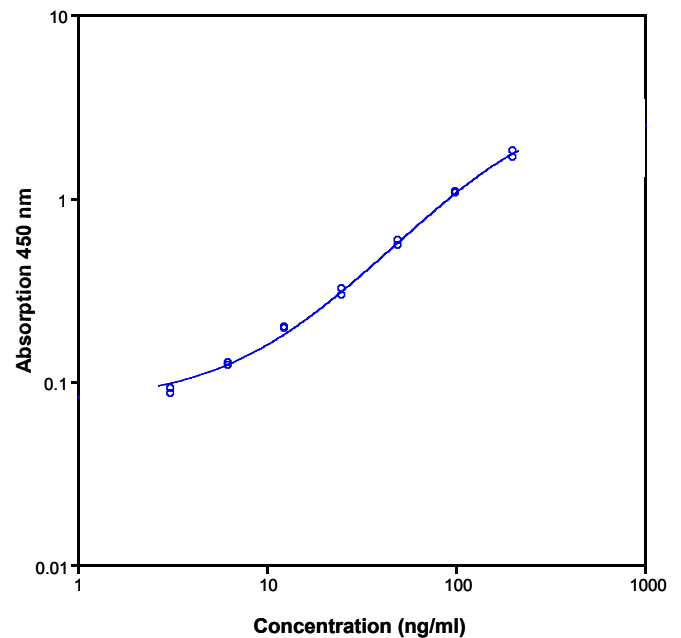

Fig. 8 Representative standard curve for human anti-IFN α ELISA. Human anti-IFN α was diluted in serial 2-fold steps in Assay Buffer (1x).
- A representative standard curve is shown in Figure 8.